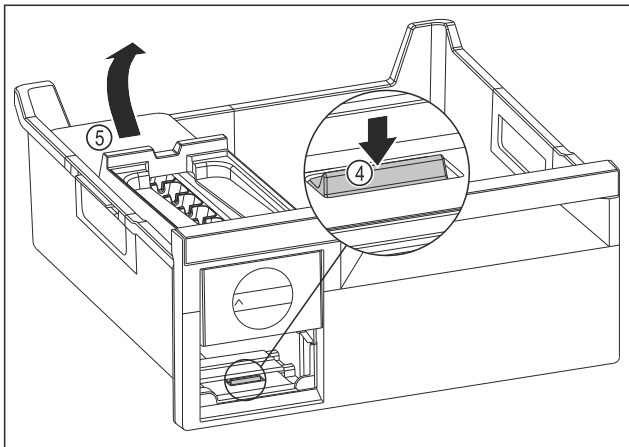

Fig. 82
- ▶ Removing the EasyTwist-Ice body: Use your finger to push the tab Fig. 82 (4) down and use your other hand to lift the EasyTwist-Ice body Fig. 82 (5) from behind at the same time.